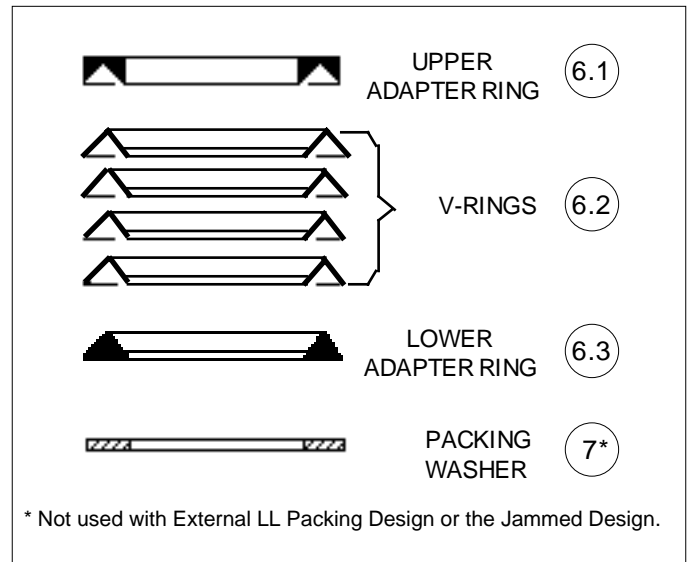
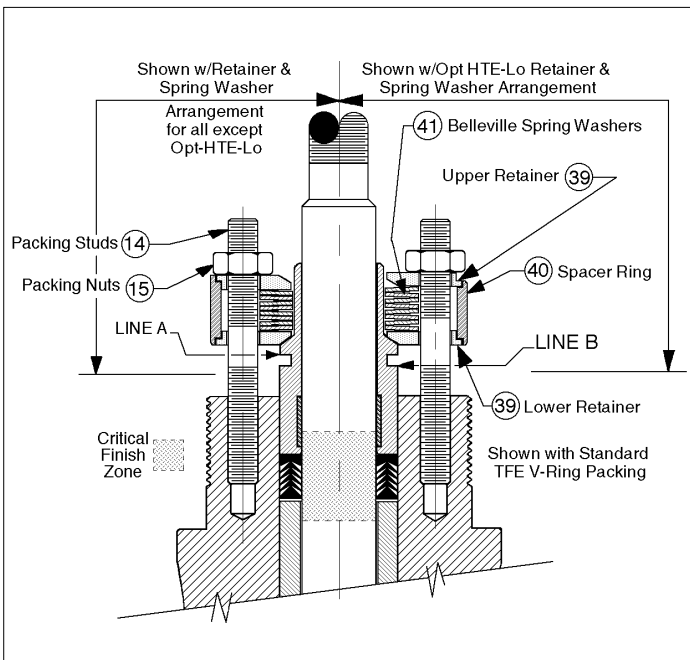
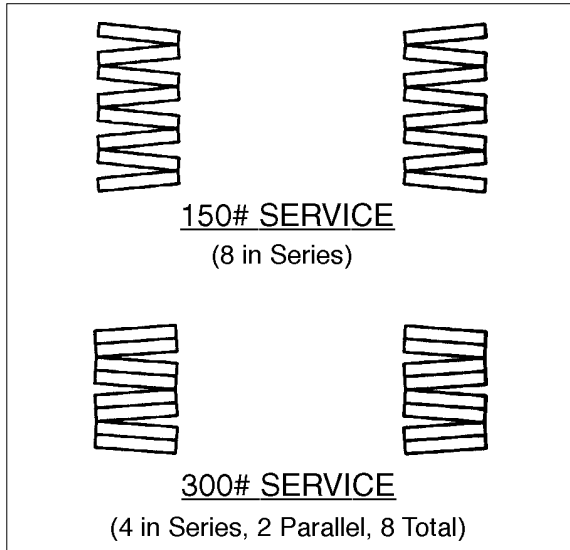

Figure 3: “STD” and “KRI” Packing Orientation
Figure 4: External Live Loaded Packing Orientation
Figure 5: Belleville Spring Washers Orientation
1. Remove actuator assembly (AA) as described in Sub-Section IV.B. Leave body assembly (BA) in vise with stem (3) upwards.
2. Loosen stem packing (6) by further loosening packing nuts (15) to just short of disengagement from packing studs (14). DO NOT REMOVE PACKING NUTS (15).
3. Remove all bonnet nuts (17).
4. Lift bonnet (2), stem assembly (3), cage (10) and all packing zone parts up and out of the body (1) while holding stem (3) to prevent from falling. Set horizontally on a workbench. **NOTE:** *Seat ring (11) (and seat retainer (23) and soft seat insert (24) for composition/soft seated designs) may also pull out with the above parts assembly.*
5. Remove both stem nuts (17).
6. Withdraw stem assembly (3) from within the bonnet (2) and packing (6), holding cage (10) to prevent from dropping. Set parts (3, 10) aside.
7. Place the bonnet (2) into a second vise with the packing zone on top.
8. Remove the two packing nuts (15).
9. Remove the packing flange (4) and packing follower (5).
10. Using a sharp, hooked-end, pick-type tool, hook and pull the packing rings (6) up and out of the bonnet's (2) stuffing box individually. Examine for proper orientation (see Figure 3). Discard old packing (6).
22. Place a new seat ring gasket (13) into position.
23. Place the new seat ring (11) into correct position within the body (1).
24. If a composition/soft seat design, position a new soft seat insert (24) and the seat retainer (23) into position on top of seat ring (11).
25. Place new bonnet gasket (12) on the body's (1) bonnet flange.
26. Orient the cage (10) over the stem assembly (3) properly, and set stem's (3) plug head down into the seat ring (11). Keep hold of the stem (3) with one hand; use other hand to push cage (10) down into proper alignment.
27. Lift bonnet (2) over threaded end of stem (3) and carefully lower bonnet (2) down over stem (3), ensuring that the critical finish zone of the bonnet's (2) stuffing box is not scratched by the stem's (3) threads. Align body (1)-to-bonnet (2) flanges to matchmarks as bonnet (2) comes down over bonnet studs (16). Carefully release stem (3) only when bonnet (2) is fully down.
28. Install bonnet nuts (17) onto bonnet studs (16) and finger-tighten.
29. Place packing spacer (9) over end of stem (3) and carefully lower into stuffing box.
30. Place packing spring (21) over end of stem (3) and carefully lower down into stuffing box.
31. Place packing washer (7) over end of stem (3) and carefully lower into stuffing box.
32. See Figure 3 for proper packing orientation.
33. Carefully place lower adapter (6.3) of packing ring set (6) over stem's (3) end, properly oriented. Using the packing follower (5), push the lower adapter into the bonnet's (2) stuffing box.
34. Carefully place a packing ring (6.2) properly oriented over the stem's (3) end and push into the stuffing box similar to the adapter (6.3). Repeat for each of the four rings (6.2).
35. Carefully place upper adapter (6.1) over the stem's (3) end.
36. Place packing follower (5) with new wiper ring (22) and new follower bushing (26) tape over the end of the stem (3).
37. Place packing flange (4) over end of stem (3) and over packing studs (14).
38. Install both packing nuts (15), finger-tight, down to the packing flange (4).
39. Tighten packing nuts (15) evenly in 1/2 revolution increments, until the shoulder of the packing follower (5) is resting evenly on the upper edge of the bonnet (2) at the stuffing box. Snug both nuts (15) tightly.
40. Reinstall the two stem jam nuts (17) onto the stem (3) and rotate as far down the stem (3) as possible.
41. Push valve stem (3) down into the seat ring (11). Wiggle the loose assembly to ensure initial alignment/stacking.